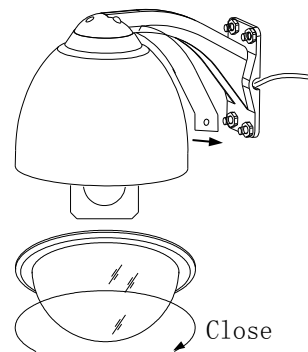

Figure 13
10. Rotate the vitreous cover clockwise and mount it (Figure 13).